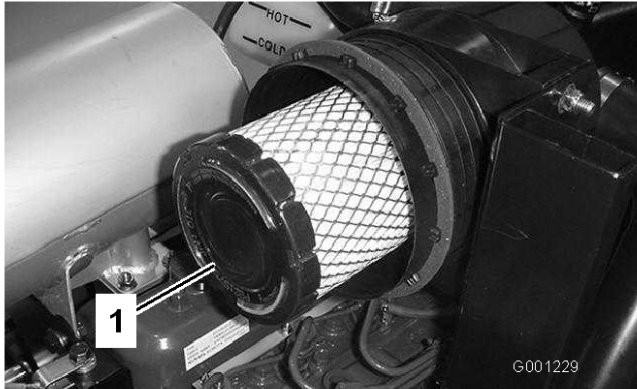

Figure 45
4. Remove and replace the primary filter (Figure 45).